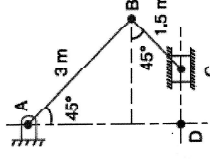

Fig. 2
- (b) In the mechanism shown in figure 2, the slider C is moving to the right with a velocity of 1 m/s and an acceleration of 2.5 m/s^2 . The dimensions of various links are $AB = 3$ m inclined